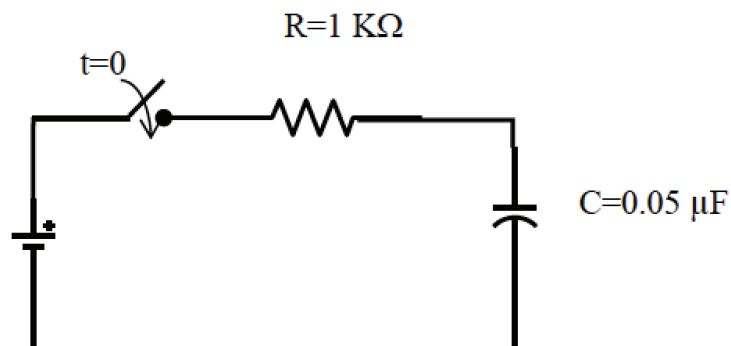

Fig. L2.2
- Find the voltage across the capacitor in Fig. L2.2 as a function of time if the capacitor was initially uncharged, and the switch was closed at time $t=0$.